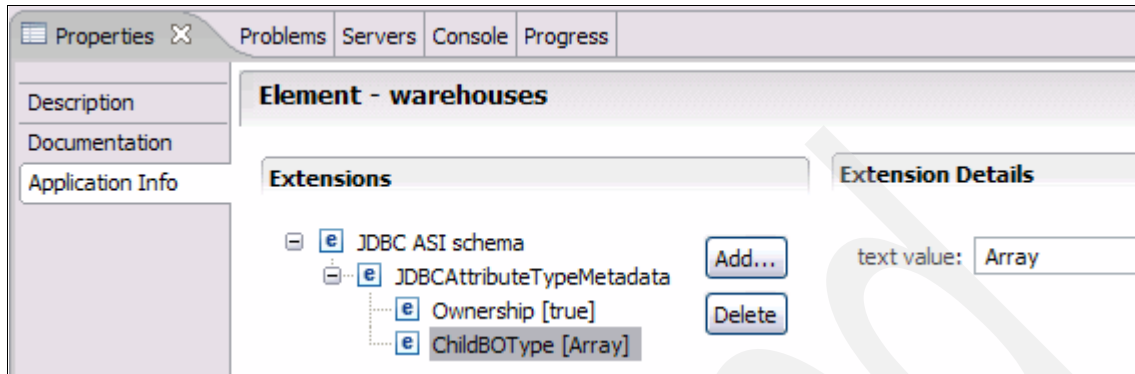

Figure 5-23 The warehouses field application information attributes
d. Select **Array** as the text value as shown in Figure 5-23.